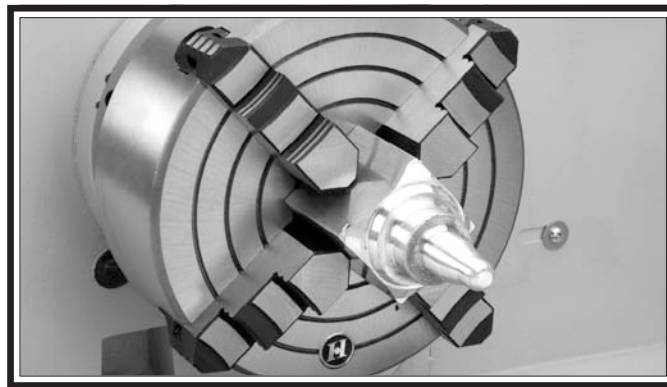

Figure 54. Example of non-concentric workpiece correctly mounted on the 4-jaw chuck.
- If the workpiece is not correctly aligned for your operation as you turn the chuck, make fine adjustments by slightly loosening one jaw and tightening the opposing jaw until the workpiece is correctly aligned (see **Figure 54** for an example).